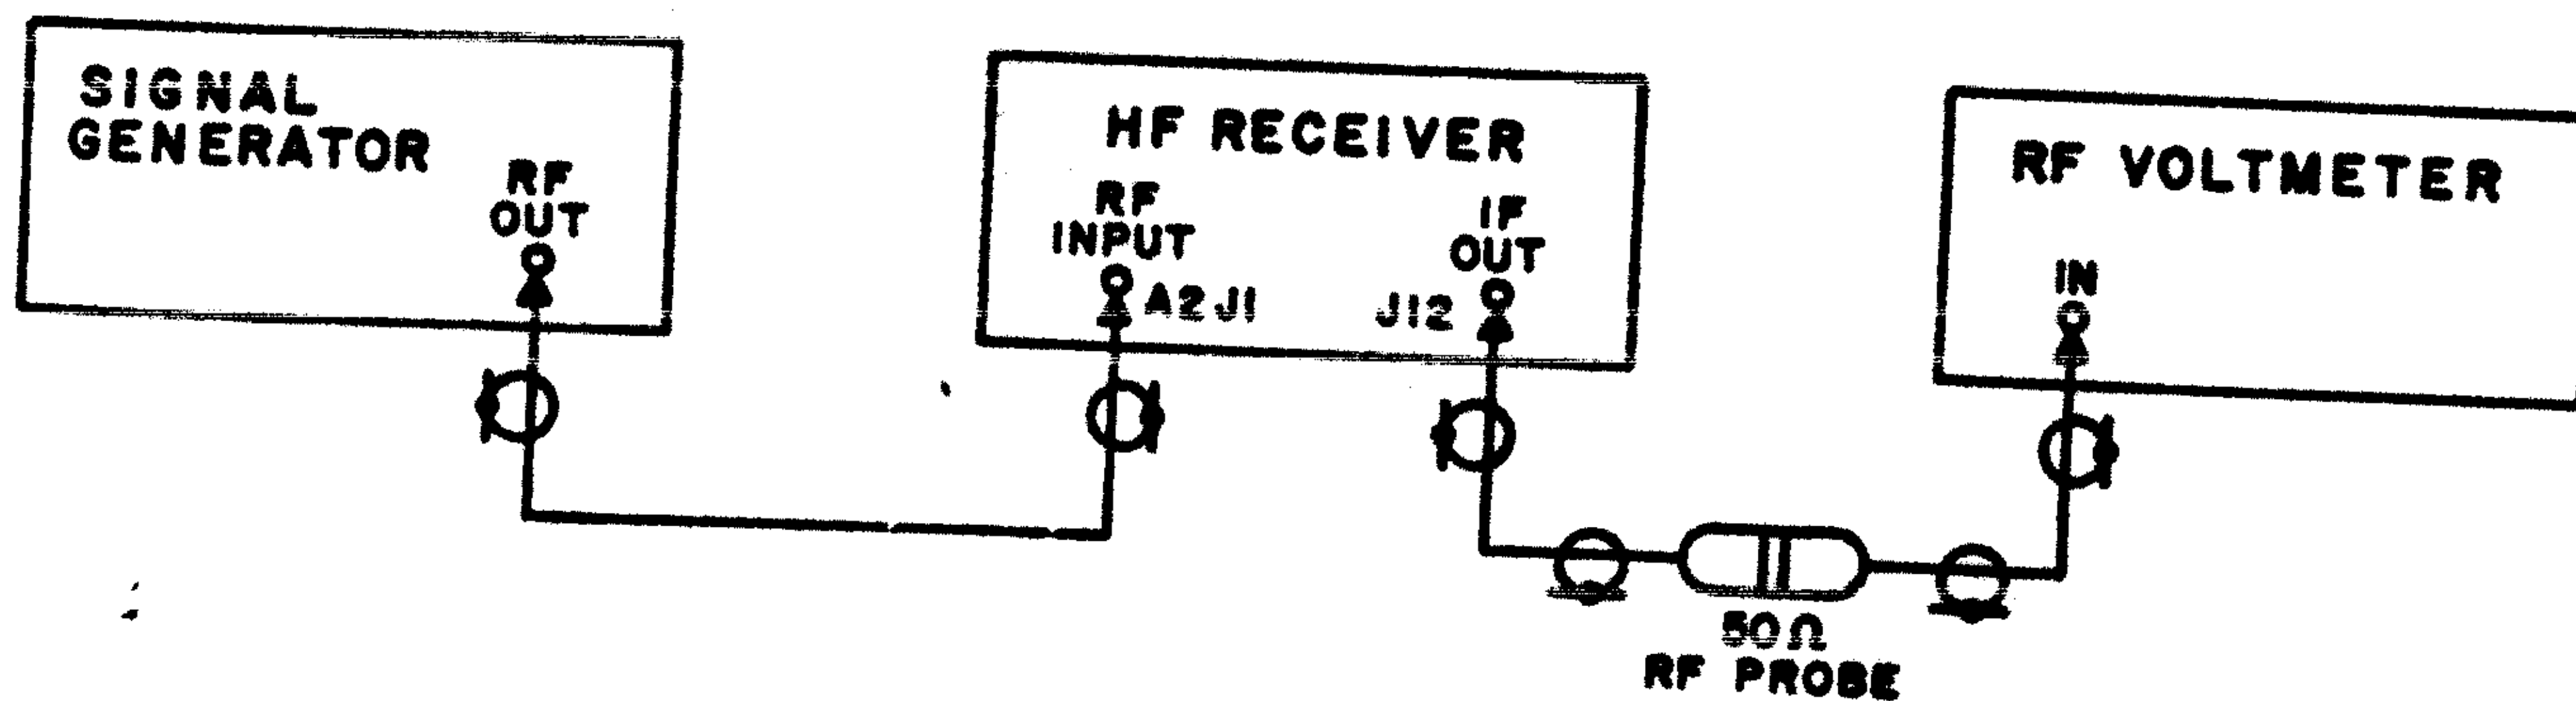

Figure 4-7. 455 kHz Amplifier/AM Detector Gain Adjustment, Test Setup
1. Connect the test equipment as shown in Figure 4-7.